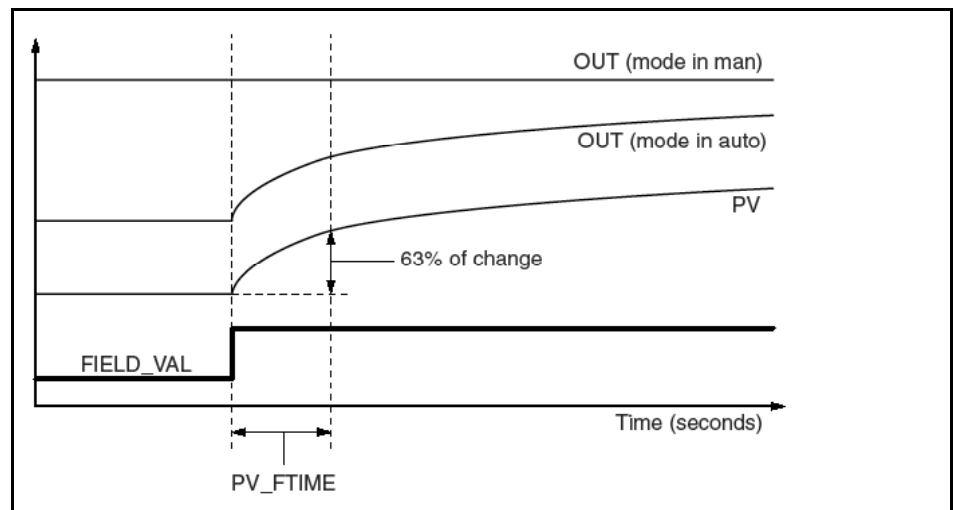

Figure 5-2 Analog Input Function Block Timing
The AI block supports alarming, signal scaling, signal filtering, signal status calculation, mode control, and simulation. In Automatic mode, the block's output parameter (OUT) reflects the process variable (PV) value and status. In Manual mode, OUT may be set manually. The Manual mode is reflected on the output status. A discrete output (OUT_D) is provided to indicate whether a selected alarm condition is active. Alarm detection is based on the OUT value and user specified alarm limits. Table 5-1 on page 35 lists the AI block parameters and their units of measure, descriptions, and index numbers. AI block timing is illustrated in Figure 5-2 on page 38.